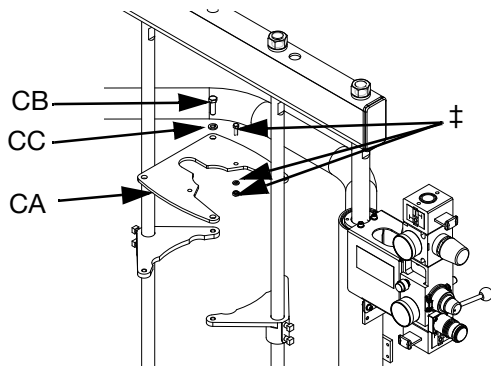

FIG. 7
1. Position the mounting brackets (42) so that the top of the pump will clear the support beam (4).
2. For President and Monark Check-Mate 450 Pumps *only*, install the mounting plate (CA) from kit 224829 onto the mounting brackets (42) using four screws (CB) and lockwashers (CC). See Fig. 7.